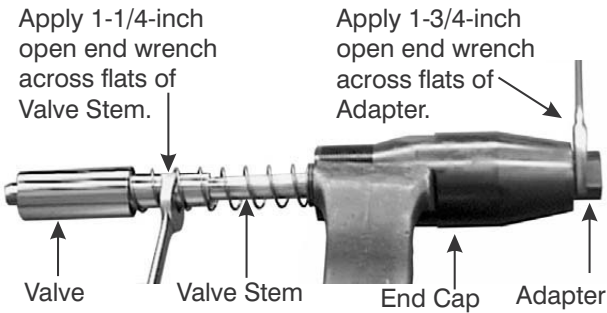

Figure 9-20. Secure Valve Stem to Adapter
6. Use a 1-3/4-inch open-end wrench to hold the Adapter (11) in place, as shown in Figure 9-20.
7. With a 1-1/4-inch open-end wrench across the flats of the Valve Stem (5), thread the Valve Stem into the Adapter (11) until it is wrench tight. Refer to Figure 9-20.